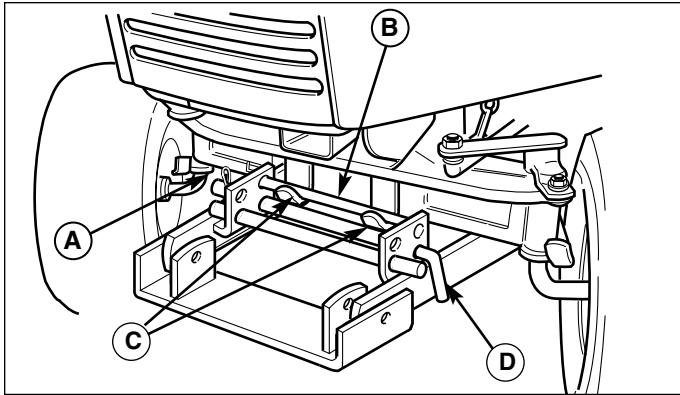
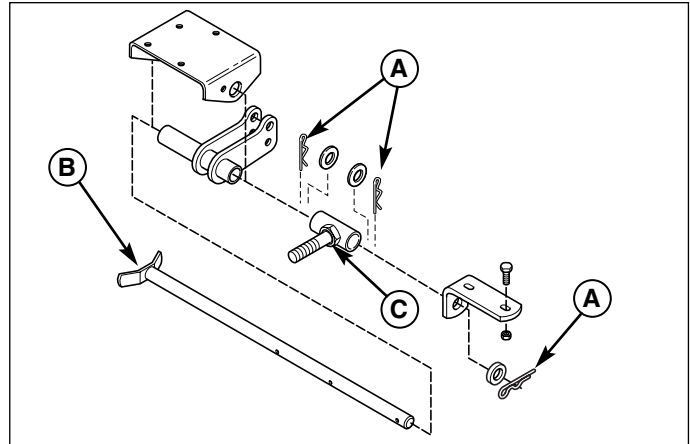

Figure 26. Installing Hitch to Front of Tractor
Figure 28. Hitch Removal - Landlord/1700/2700
1. Remove the safety clip (A, Figure 26) and remove the hitch pin (D).
2. Lift the hitch bar (B) off the tractor brackets (C).
3. Remove the spring clips (A, Figures 28 & 29) securing the rear hitch bracket (C) to the lift pivot rod (B).
4. **Hydraulic/Electric Lift Models:** Slide the lift pivot rod (B, Figure 28) out and remove the rear hitch bracket (C). Remove the lift lever extension.